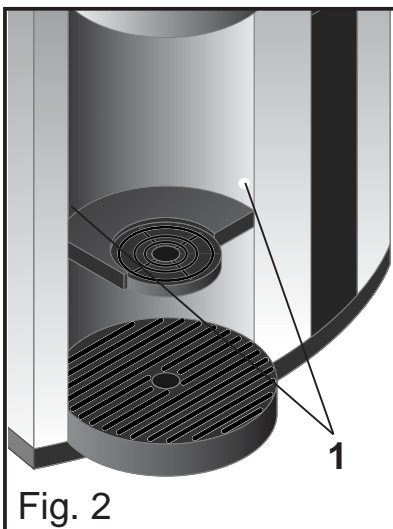

Fig. 2
- Clean the outer dispenser parts, the delivery area and the opening for sensor and reflector (1) with a soft damp cloth. (Fig. 2)